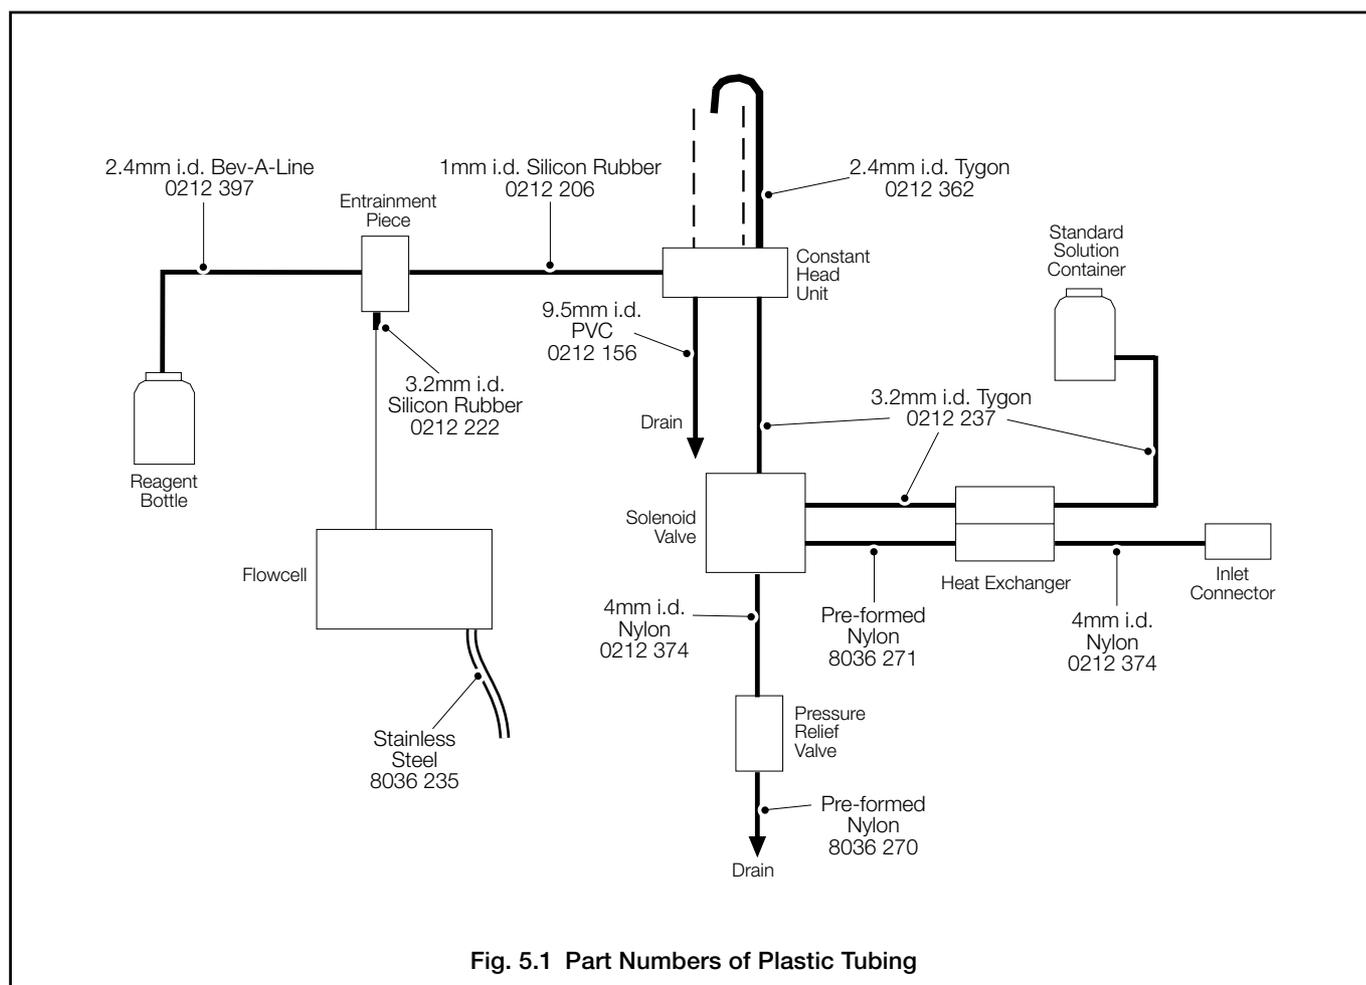

Fig. 5.1 Part Numbers of Plastic Tubing
5.4.3 Replacement of Plastic Tubing (Fig. 5.1)
In time certain sections of plastic tubing require replacement due to leakage, blockages, or poor condition. It is good practice to remove the liquid handling panel every twelve months for a complete refurbishment which includes replacing all plastic tubing. Use only the correct size and type of tube – see Fig. 5.1 for part numbers.